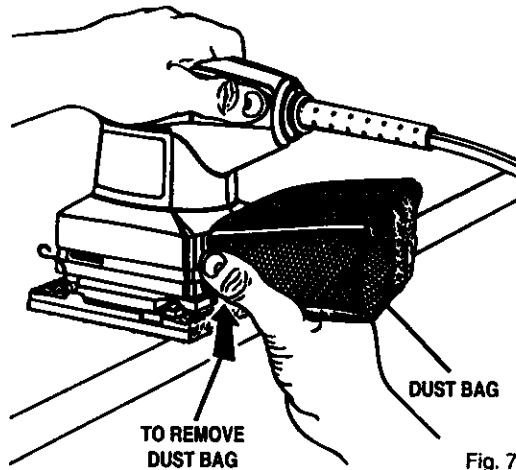

Fig. 7
See Figure 7.
- Slide dust bag retainer from sander as shown by the arrow in figure 7. **Note:** Grooves on dust bag retainer align with grooves on your sander.